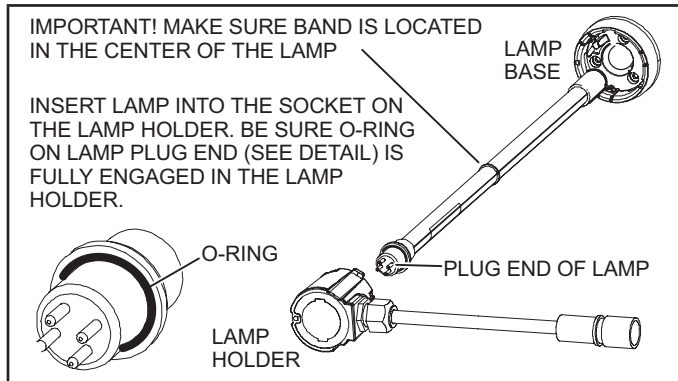

FIGURE 8. Inserting Lamp into Socket
- 3 - Noting the orientation of the pins for lamp insertion, fully insert the lamp into the lamp holder socket so that the o-ring is fully inside the lamp holder (see figure 8).